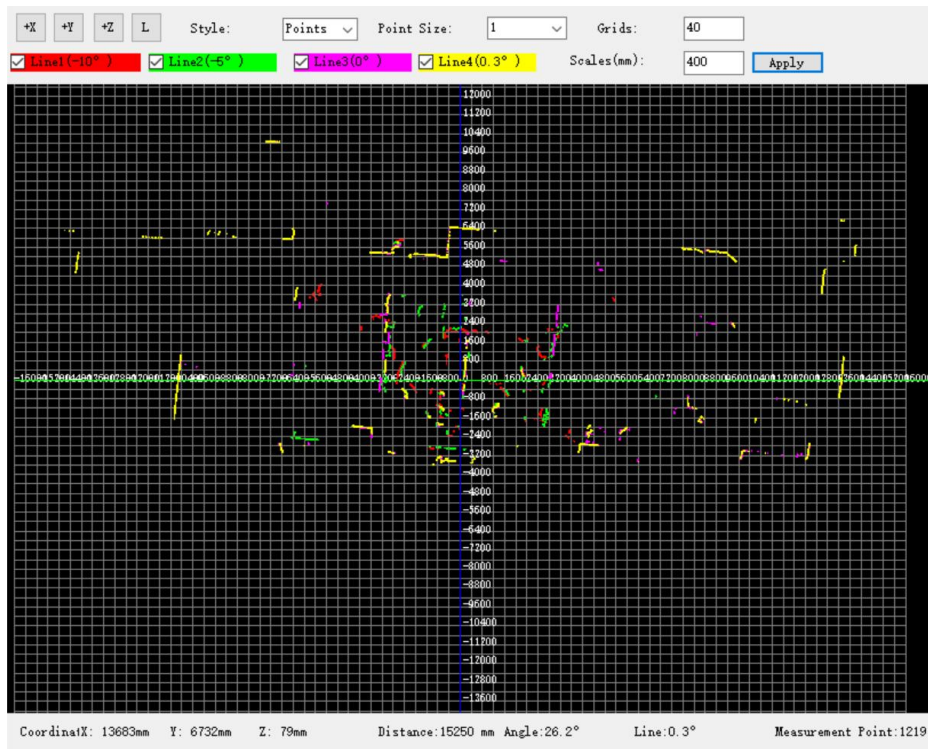
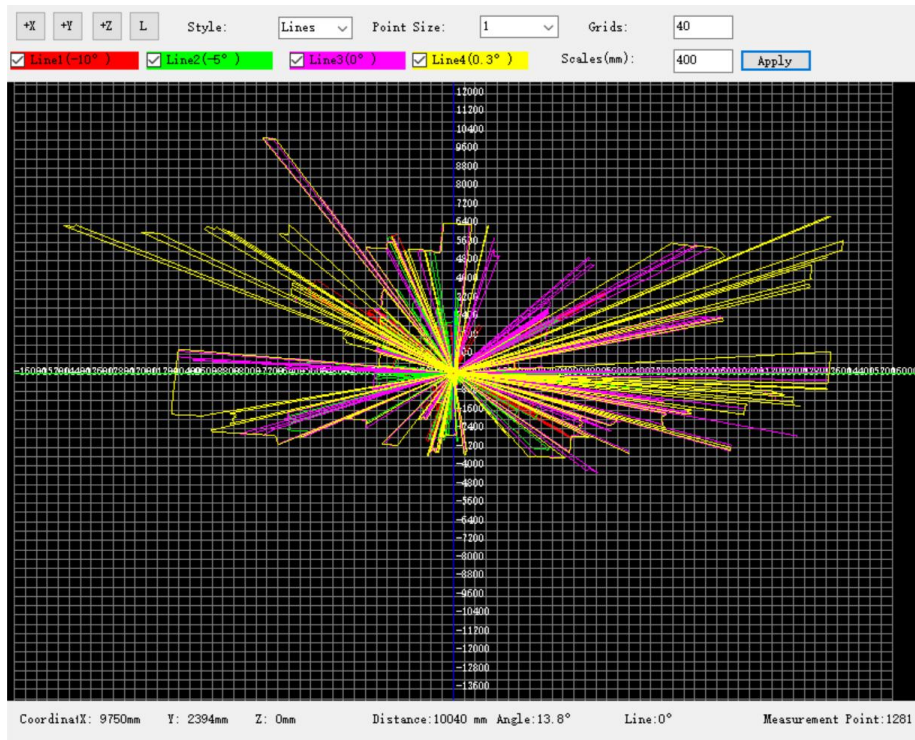

Figure 4.15 Dot mode display
Figure 4.16 Line mode display
2) Points/Lines switch . This function is used to switch between point display and line display. Figure 4.15 is the point cloud display; Figure 4.16 is the line mode display.